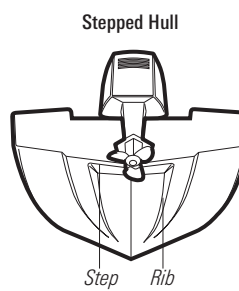

Figure 2
- On boats with stepped hulls, it may be possible to mount the transducer on the step. Do not mount the transducer on the transom behind a step to avoid popping the transducer out of the water at higher speeds. The transducer must remain in the water for the control head to maintain the sonar signal (Figure 2).